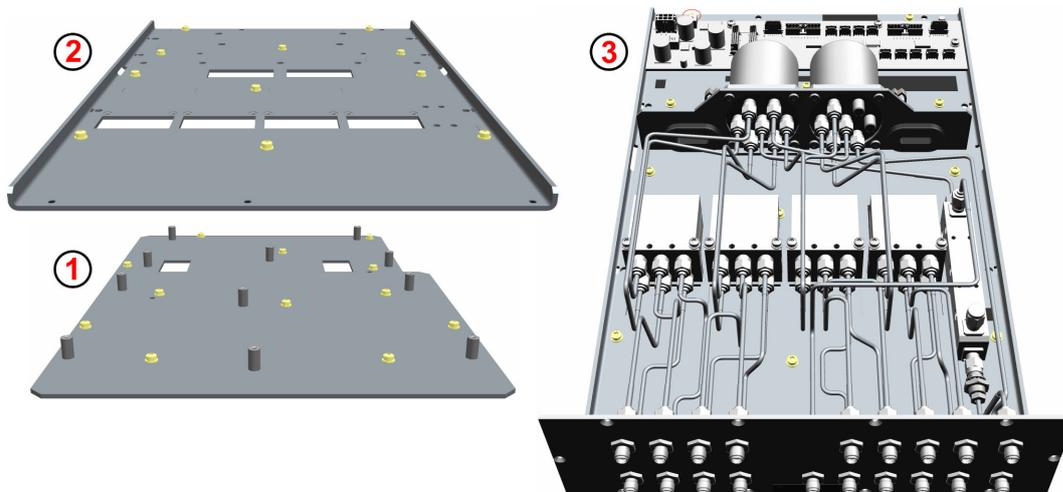

Figure 3-4: Overview of the parts for the fixation of module R&S OSP-B157WX
20. Screw the adapter plate (item (1) in Figure 3-4), which comes separately, to the base plate of the switch unit (12 cylinder-head screws, type Torx M2.5x6, included in the delivery).
23. Screw the ground plate (item (2) and (3) in Figure 3-4) to the adapter plate (11 cylinder-head screws, type Torx M2.5x6, included in the delivery).